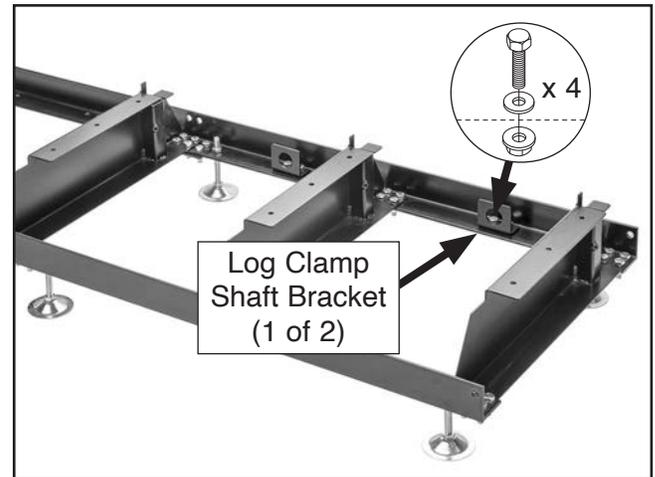

Figure 21. Log clamp shaft brackets installed.
- Install (2) log clamp shaft brackets at locations shown in **Figure 21** with (4) M10-1.5 x 30 hex bolts, $\frac{3}{8}$ " flat washers, and M10-1.5 flange nuts.